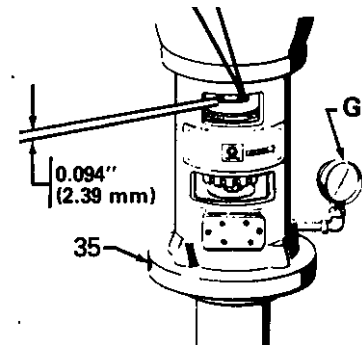

Fig 2
Adjust the motor coupler to 0.094 in. (2.39 mm) clearance. **See** Fig 2. Tighten the pump coupler setscrew.
2. Be sure the motor rotates in the correct direction and the drive coupler clearance is set at 0.094 in. (2.39 mm). See Fig 2.